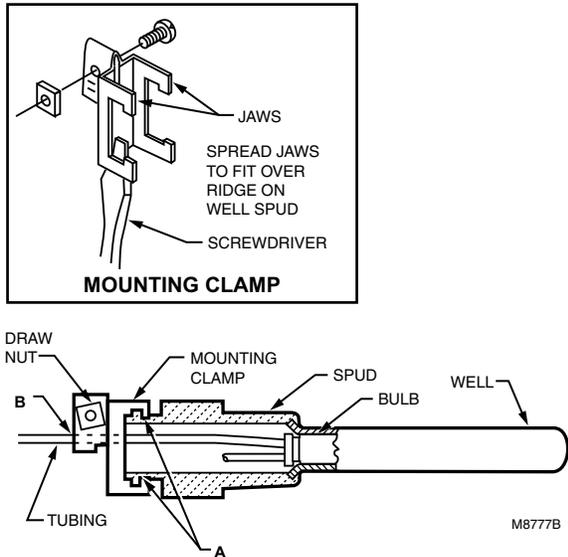
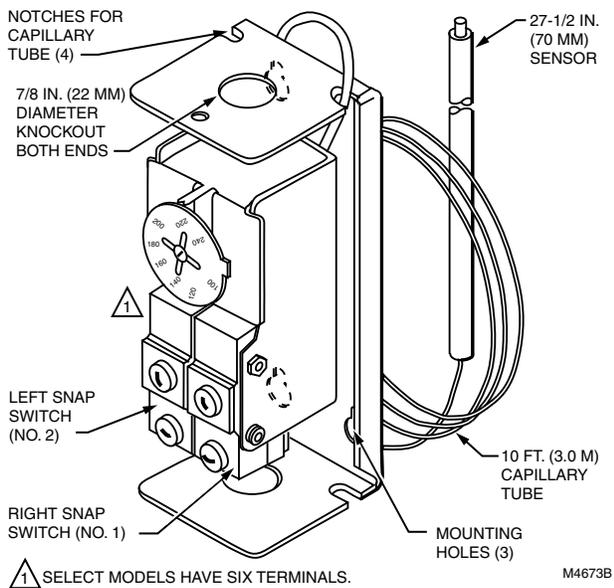
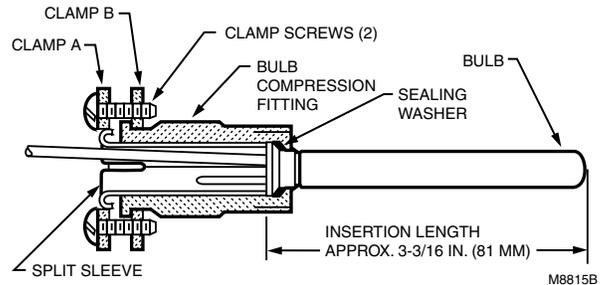
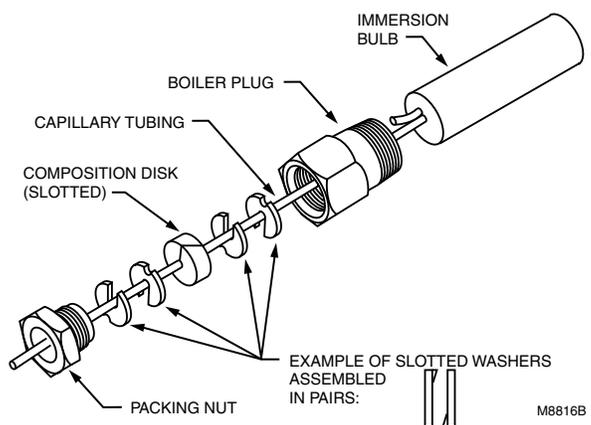

Fig. 8. Immersion well fitting.
Fig. 9. Internal view of L4008L or L6008G.
Fig. 10. Bulb compression fitting. Use with L4006A,B; L6008A.
Fig. 11. Capillary compression fitting. Use with L4008.
The remote temperature-sensing bulb can either be installed in an immersion well (Fig. 8) that extends into the boiler or tank, or it can be directly immersed in the controlled medium. See Fig. 9. For installations that do not use a well, secure the remote bulb with a bulb compression fitting (Fig. 10), or capillary compression fitting (Fig. 11).
Order well, well adapter, bulb compression fitting or capillary compression fitting separately. See form 68-0040, Wells and Fittings for Temperature Controllers. If used, well must snugly fit sensing bulb for the best thermal response. Insert bulb until it rests against the bottom of the well. Hold it there while tightening the tubing clamp. See Fig. 8.
3. Attach the retainer clamp to the end of the well spud. Loosen the draw nut and spread the jaws of the clamp with the screwdriver if necessary. See Fig. 8.
4. With the retainer clamp attached to the well spud (be sure the jaws of the clamp hook over the ridge at the end of the spud, as shown at points A in Fig. 8), adjust the tubing to fit through the retainer clamp groove, as shown at point B (Fig. 8).
4. Slide the split sleeve into the fitting. See Fig. 10.
4. Place the composition disk and four slotted brass washers on the tubing in the order shown in Fig. 11. Turn the brass washers so the slots are 180 degrees apart.